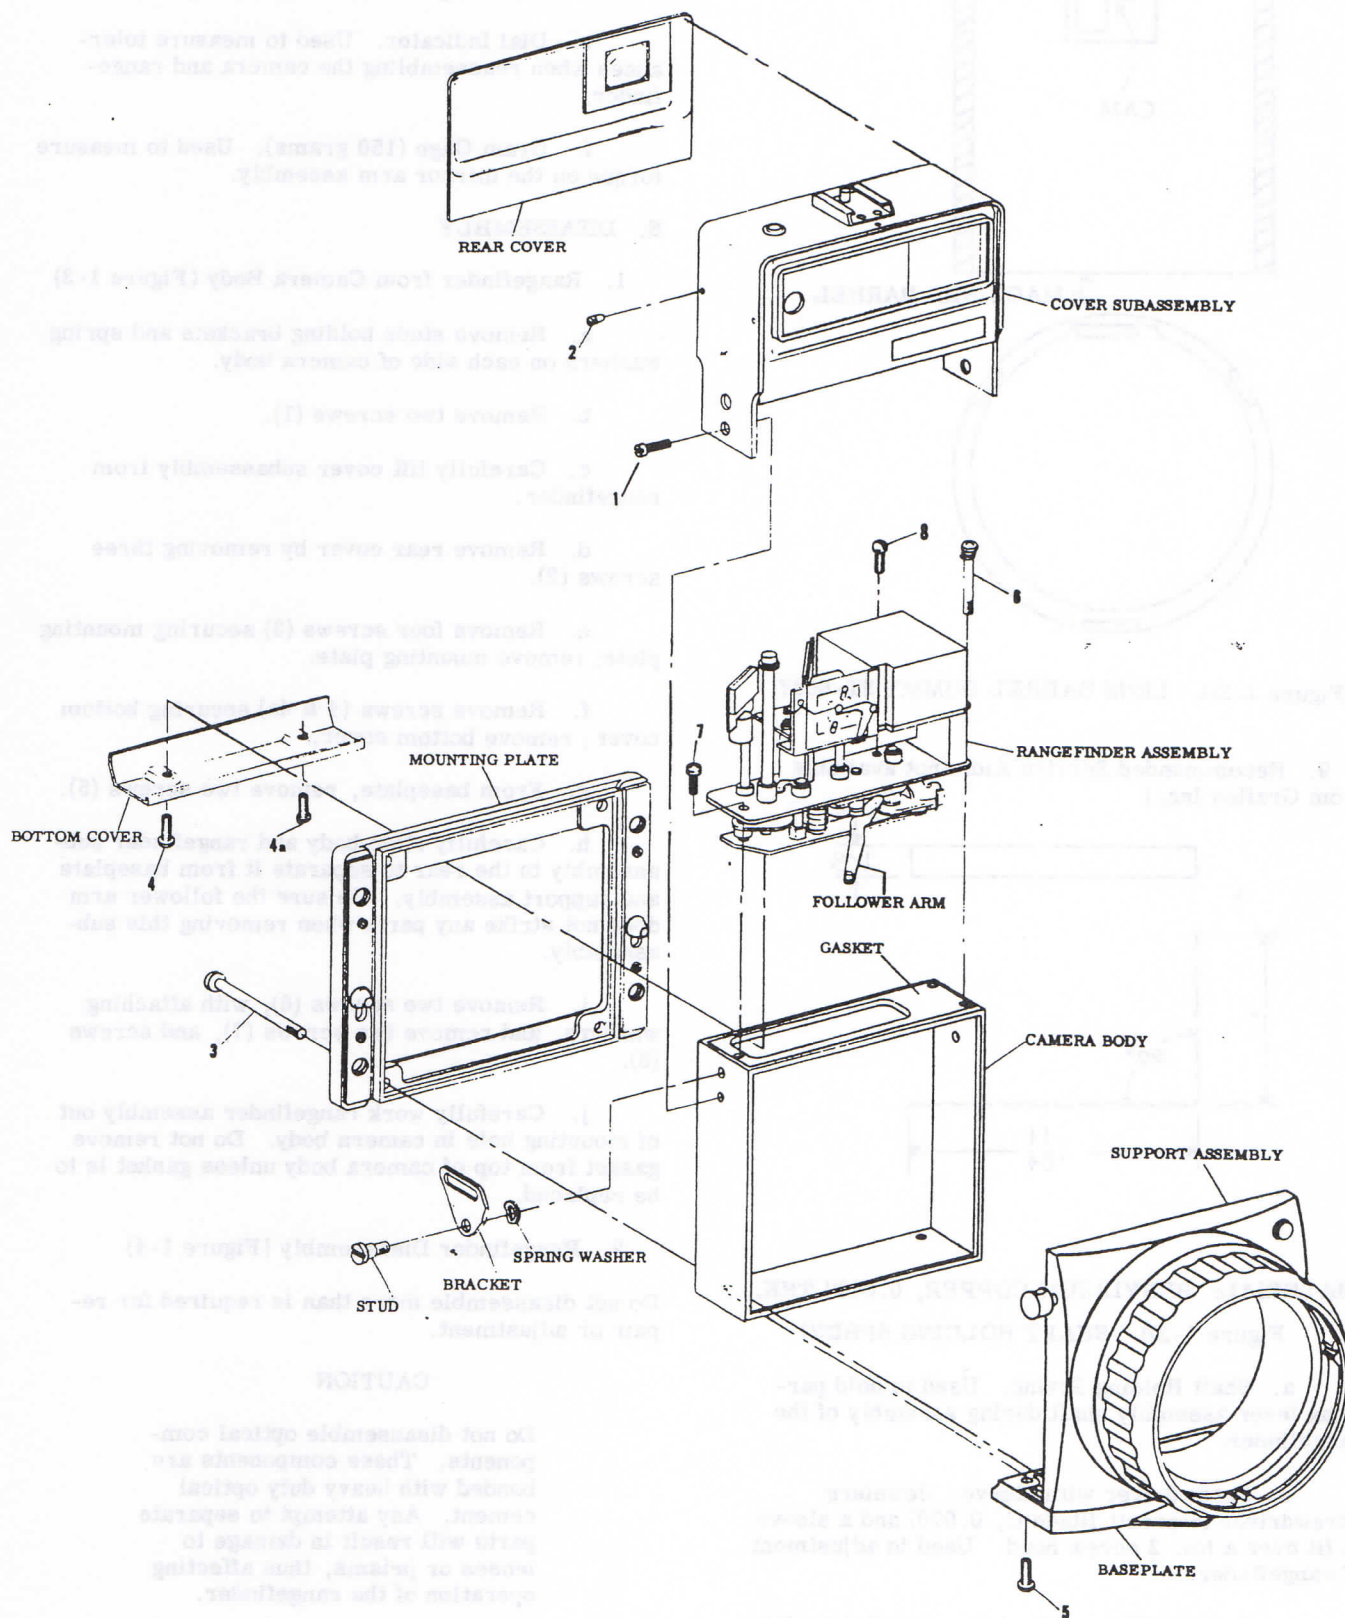
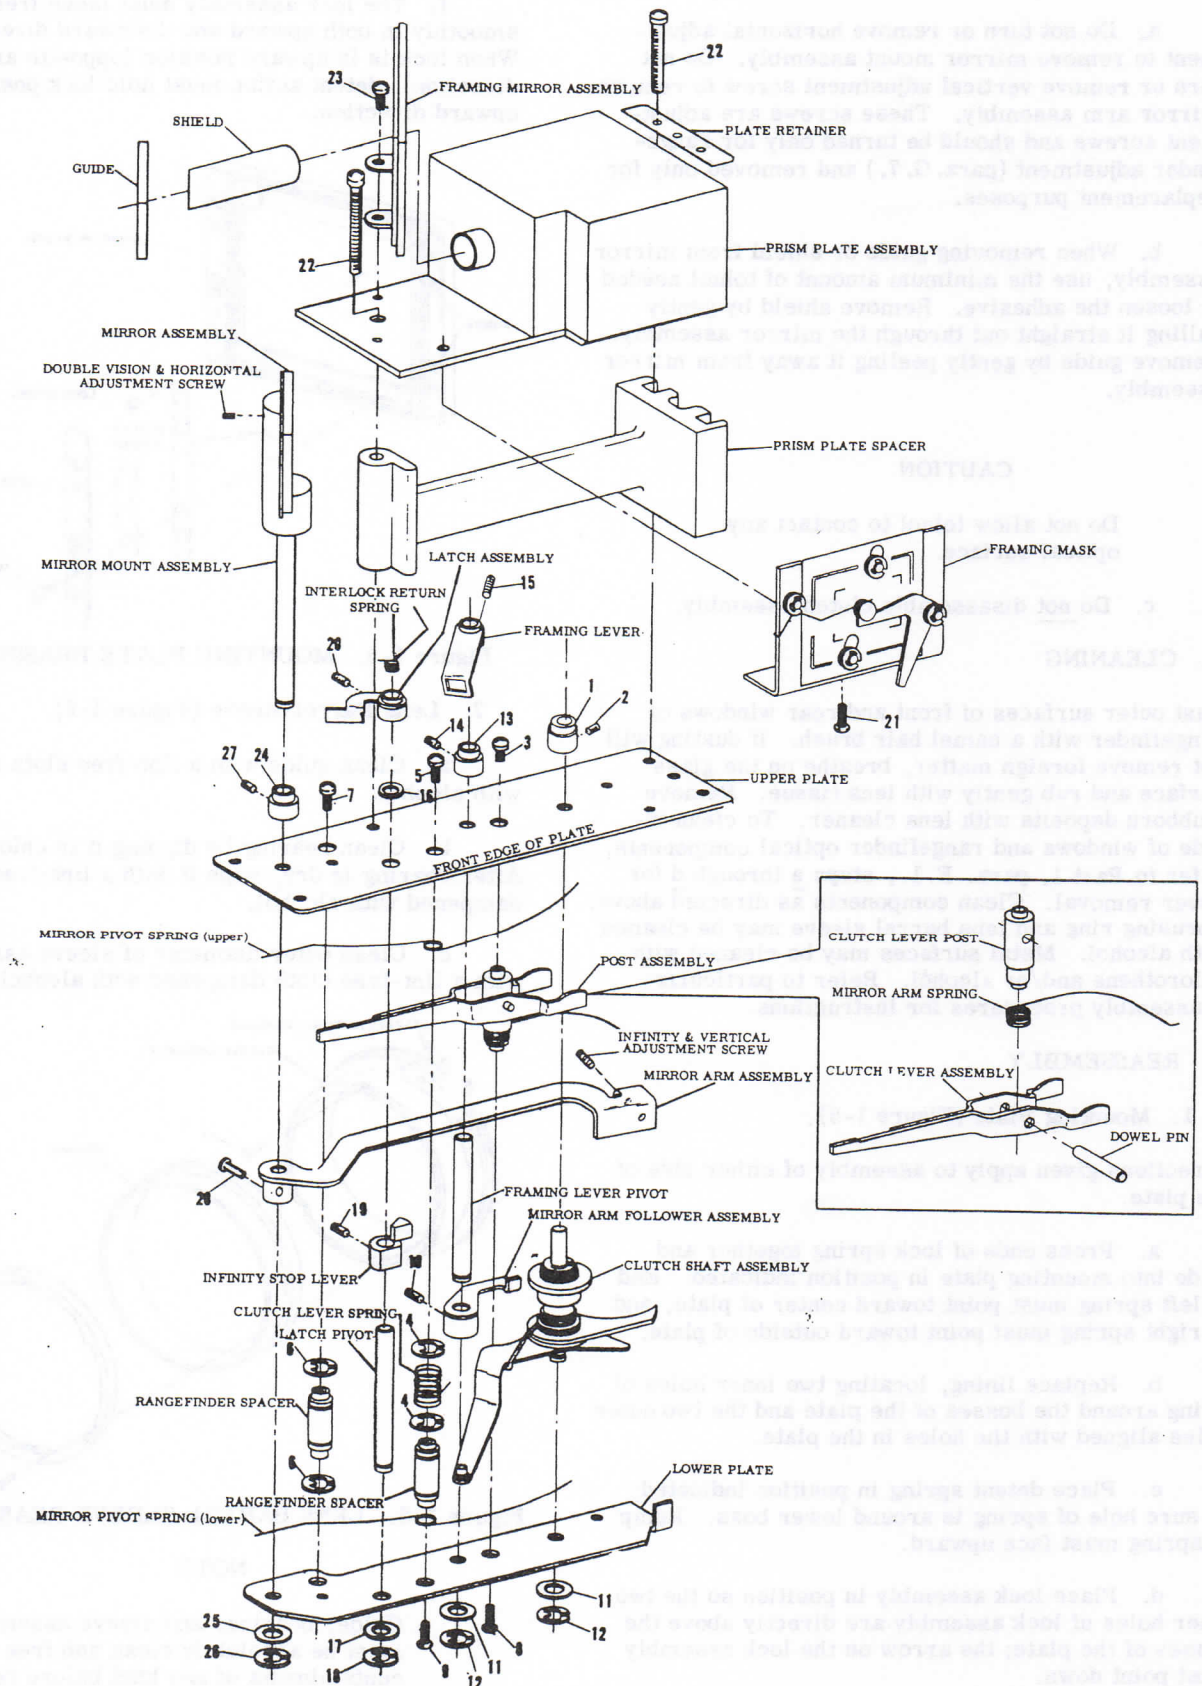

Figure 1-3. REMOVING RANGEFINDER FROM CAMERA BODY
Figure 1-4. RANGEFINDER DISASSEMBLY
1. Rangefinder from Camera Body (Figure 1-3)
b. Remove two screws (1).
d. Remove rear cover by removing three screws (2).
e. Remove four screws (3) securing mounting plate; remove mounting plate.
g. From baseplate, remove two screws (5).
i. Remove two screws (6), with attaching washers, and remove two screws (7), and screws (8).
2. Rangefinder Disassembly (Figure 1-4)